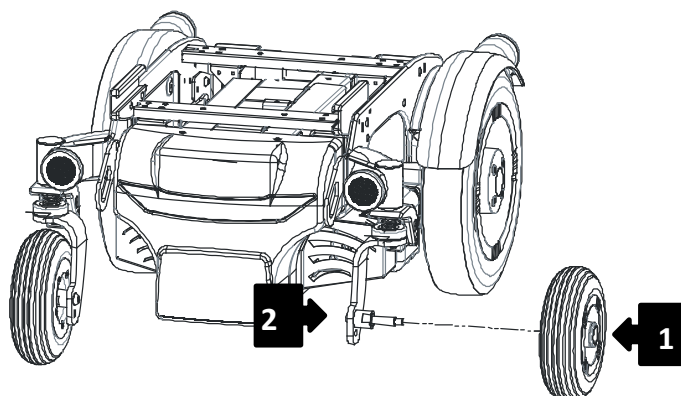

Figure 53
Chock up the wheelchair so that the wheel turns freely. Seeing Figure 53, lock the nut (1) with an open-end wrench of 13 mm and unscrew the bolt (2) with an allen wrench of 6 mm.